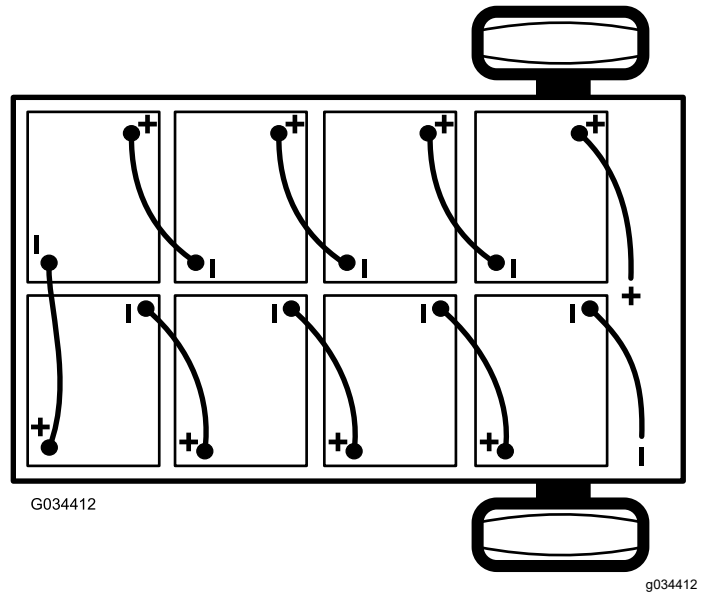

Figure 38
2. Disconnect the main negative-battery cable (black) that connects the bank of batteries to the ground point of the machine (Figure 38).
3. Disconnect the main positive-battery cable (red) that connects the bank of batteries to the main contactor of the machine (Figure 38).
Note: Pay attention to the battery polarity when installing the new batteries (Figure 38).
6. Connect the batteries together as shown in Figure 38 with the battery-interconnect cables that you removed in step 1.
2. Connect the main positive-battery cable (red) between the bank of batteries and the machine (Figure 38).
3. Connect the main negative-battery cable (black) between the bank of batteries and the machine (Figure 38).